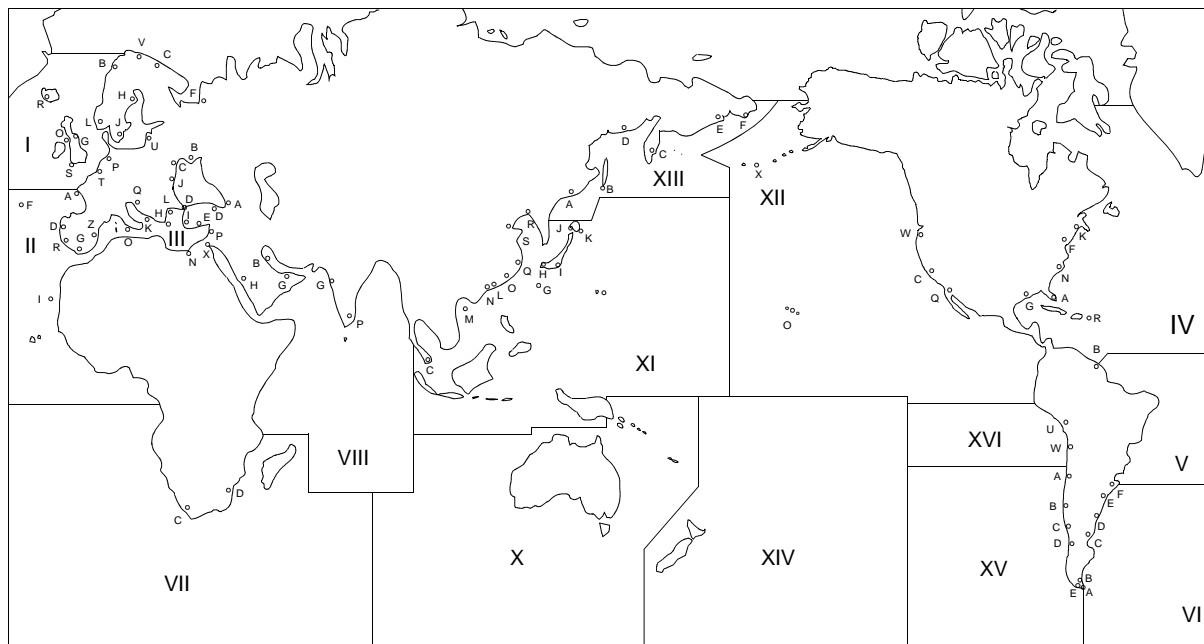

Figure 4. NAVTEX Station Map
10. Additional information on the operation of the NAVTEX receiver is supplied below (figure 4).